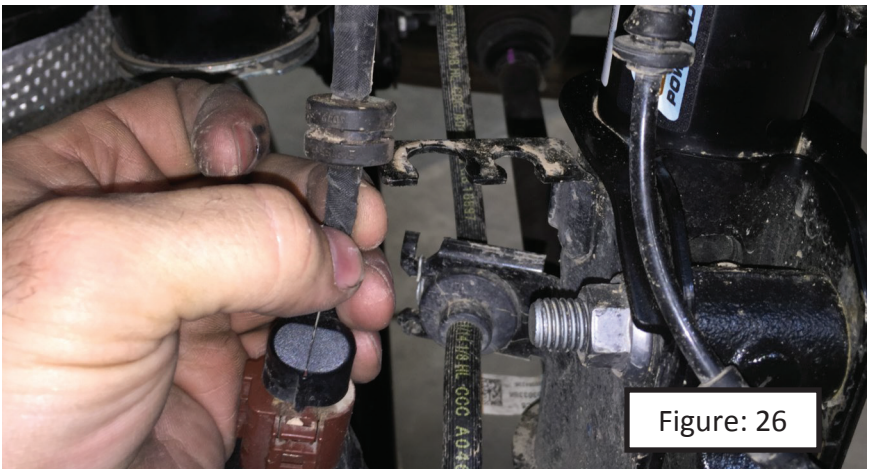

Figure: 24
48. Remove the lower control arm from the uni-body (Figure: 24). The E-14 socket will be needed.